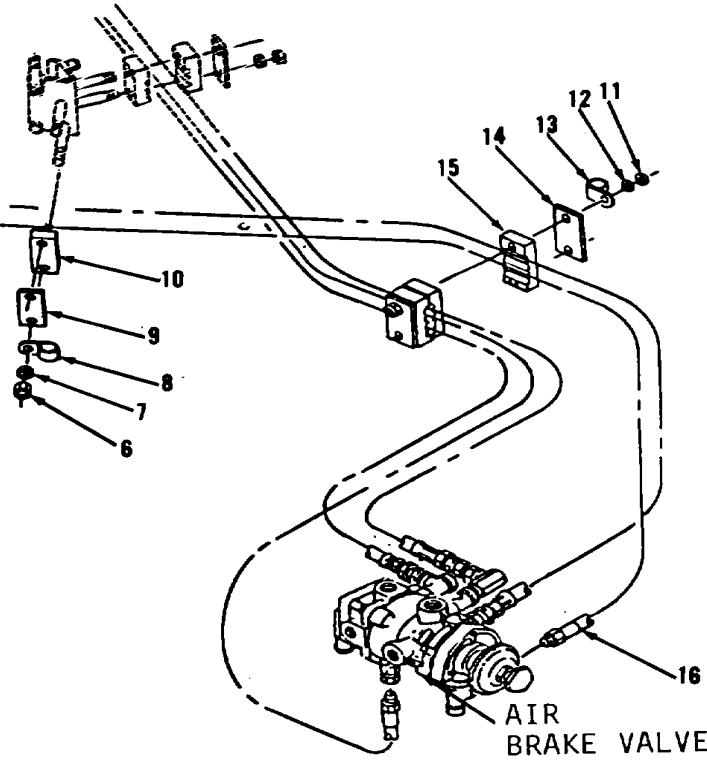
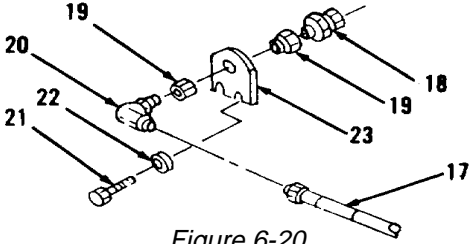
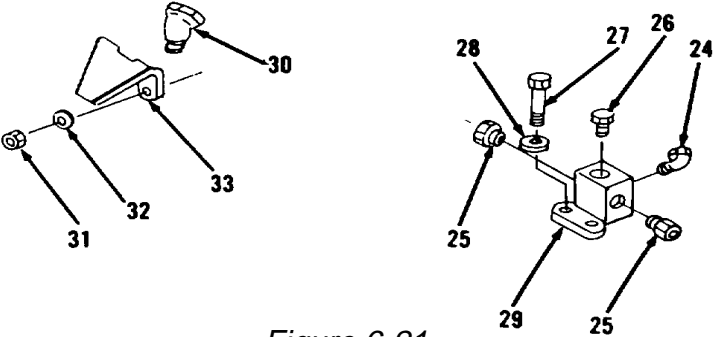

Figure 6-19.
Figure 6-20.
Figure 6-21.
- 7. Remove two nuts (6), washers (7), clip (8) and plate (9, Figure 6-19) under front, right side of engine compartment.
- 8. Remove clamp (10).
- 9. Remove two nuts (11), washers (12), clip (13) and plate (14).
- 10. Remove clamp (15).
- 11. Remove hose assembly (16) from air brake valve.
- 12. Remove hose assembly (17) from elbow (20, Figure 6-20).
- 13. Remove connector (18), two fittings (19) and elbow (20).
- 14. Remove two bolts (21), washers (22) and plate (23).
- 15. Remove elbow (24), two connectors (25), plug (26), two bolts (27), washers (28) and block (29, Figure 6-21).
- 16. Remove two elbows (30), four nuts (31), washers (32) and two guards (33).